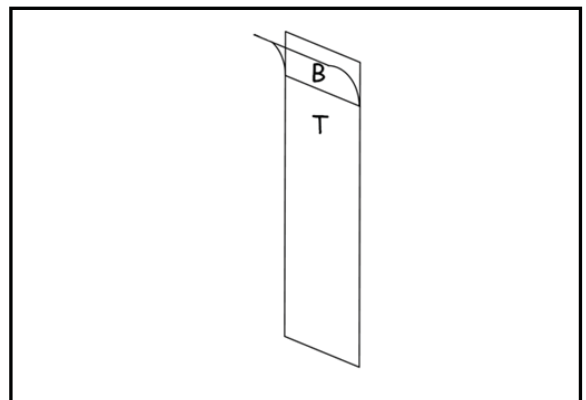

Figure 5
6. Carefully pull up one set of both top and bottom tape strips together (Figure 5). If the double strip tends to curl toward your hand, carefully rub the strips between your fingers until they no longer are attracted to you.